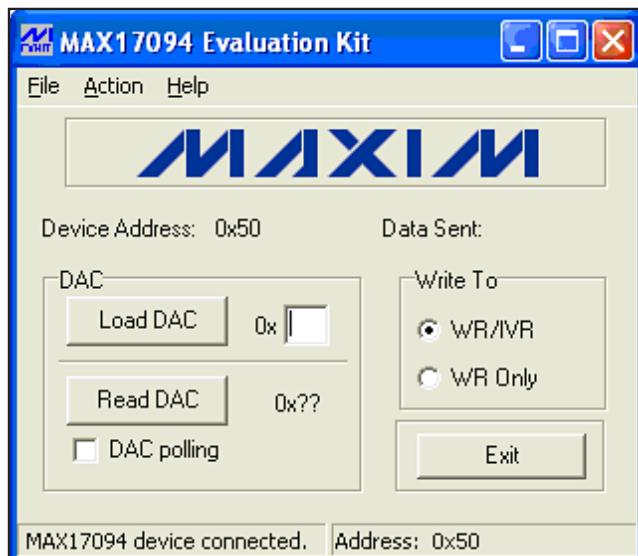
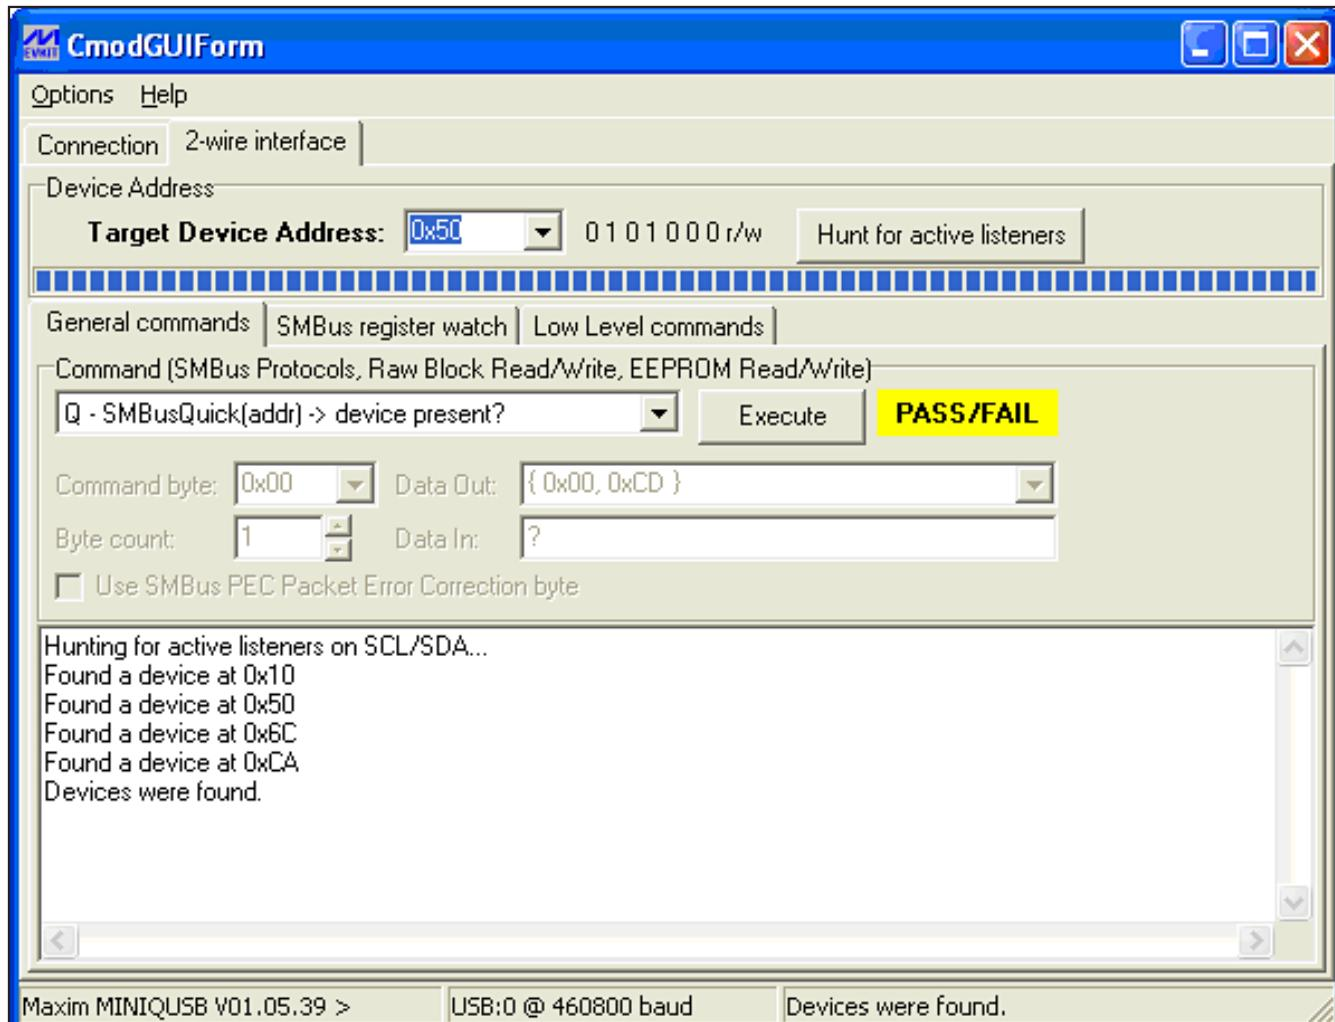

Figure 1. MAX17094 EV Kit Software Main Window
Figure 2. Command Module Interface Window
- 12) Normal device operation is verified when **MAX17094 device connected** appears in the **status bar** on the MAX17094 EV kit main window (Figure 1).
The DAC setting corresponds to a certain sink-current level, which in turn corresponds to a specific VCOM voltage. With the MAX17094 EV kit software, the device's 7-bit internal DAC is configured by entering an appropriate DAC setting into the **Load DAC** edit box. The DAC setting can be set from 0x00 (VCOMMIM) to 0x7F (VCOMMAX). The DAC setting is written to the device by pressing the **Load DAC** button (Figure 1).
There are two methods for communicating with the MAX17094: through the MAX17094 EV kit software main window (Figure 1), or through the interface window available by selecting the **Action | Interface Diagnostic Window** menu item from the menu bar. The Maxim command module interface window (Figure 2) includes a **2-wire interface** tab that allows for execution of the **SMBusSendByte()**, **SMBusReceiveByte()**, and **SMBusQuick()** commands. See Table 6 for details regarding SMBus commands.
The **Command byte** and **Data Out** combo boxes accept numeric data in binary, decimal, or hexadecimal. Hexadecimal numbers should be prefixed by \$ or 0x. Binary numbers must be exactly eight digits. See Figure 2 for an illustration of this tool.